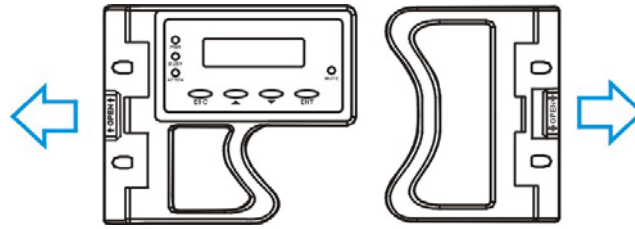

Figure 5- 11: Forearm Handle Locking Mechanism
- ◆ **Forearm handles:** If the hard drive is behind either the left or right forearm handle, make sure that the locking mechanism on the side of the handle is first released prior to opening the handle itself. (See *Figure 5- 11*) The locking mechanism must also be released in order to close the handle. Therefore, after the new drive has been installed, it will be necessary to release the locking mechanism on the handle prior to closing it. For more information, please refer to *Section 1.5* in *Chapter 1*.